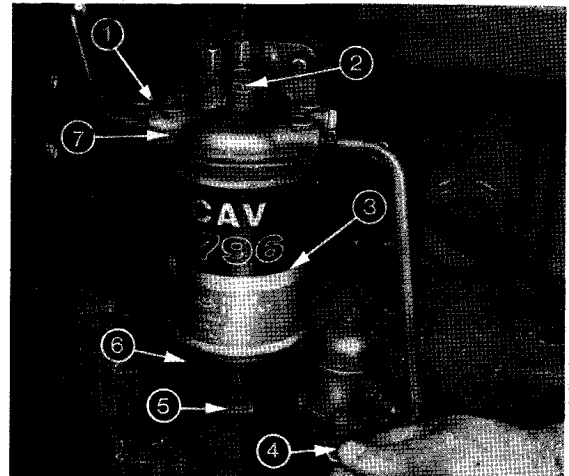
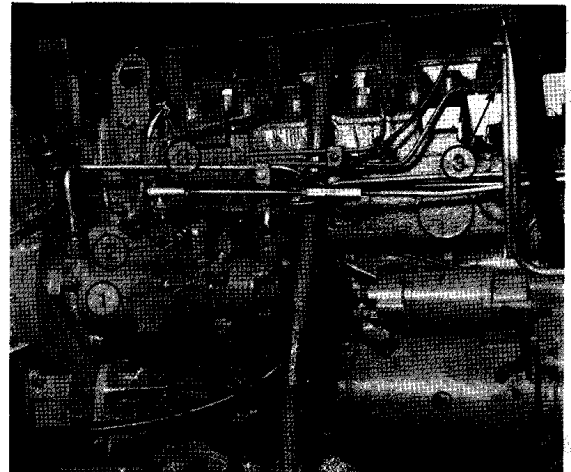

FIG. 9
FIG. 10
Fuel Filter (Fig. 9)
1. Fig. 9. Slacken the outlet union (1) on the fuel filter.
2. Operate the hand priming lever (4) on the fuel lift pump until fuel, free of air bubbles, issues from the union, then retighten the union.
3. Fig. 10. Slacken the lower vent plug (1) on the fuel injection pump and operate the fuel lift pump until fuel, free of air bubbles issues from the vent, then retighten the vent plug.
4. Slacken the upper vent plug (2) on the fuel injection pump and operate the fuel lift pump until fuel, free of air bubbles issues from the vent, then retighten the vent plug.
5. Slacken the unions (3) at numbers one and four injectors.